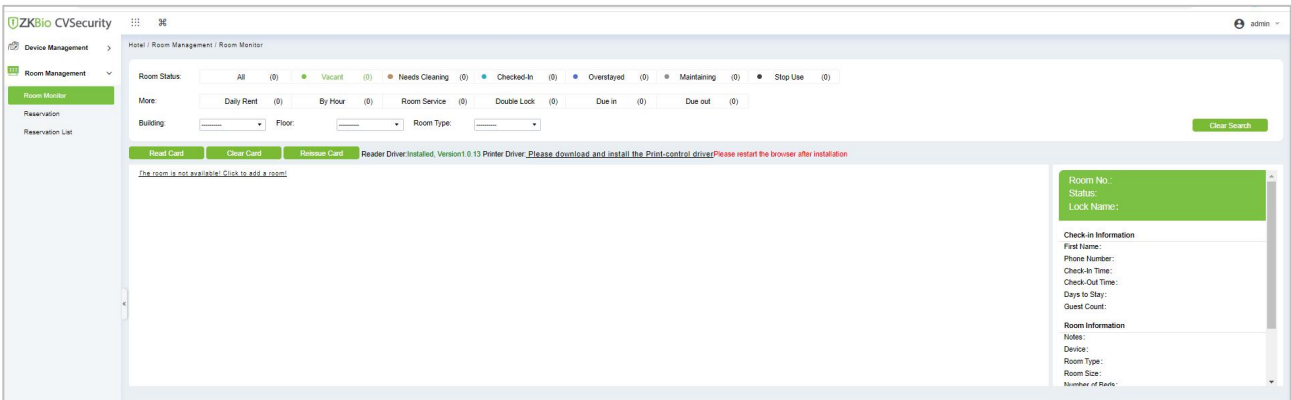

Figure 17-3 Room Monitoring
Step 2: You can view relevant monitoring card and data statistics in the monitoring room interface, as shown in Figure 17-3.